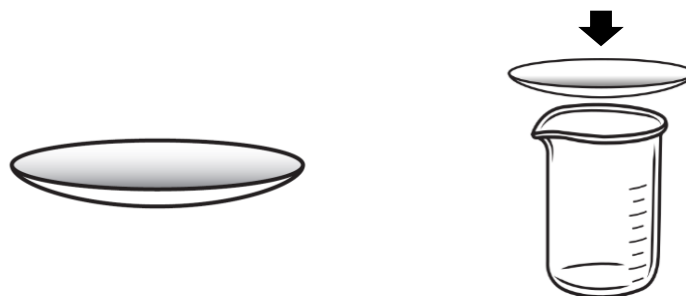

Figure 9. Watch Glass and Placement on Beaker.
- Ethanol is a flammable liquid. It is harmful by ingestion, inhalation, or skin absorption. It is an irritant to the eyes, nose, throat, and skin. Keep beakers covered with a watch glass (Figure 9).